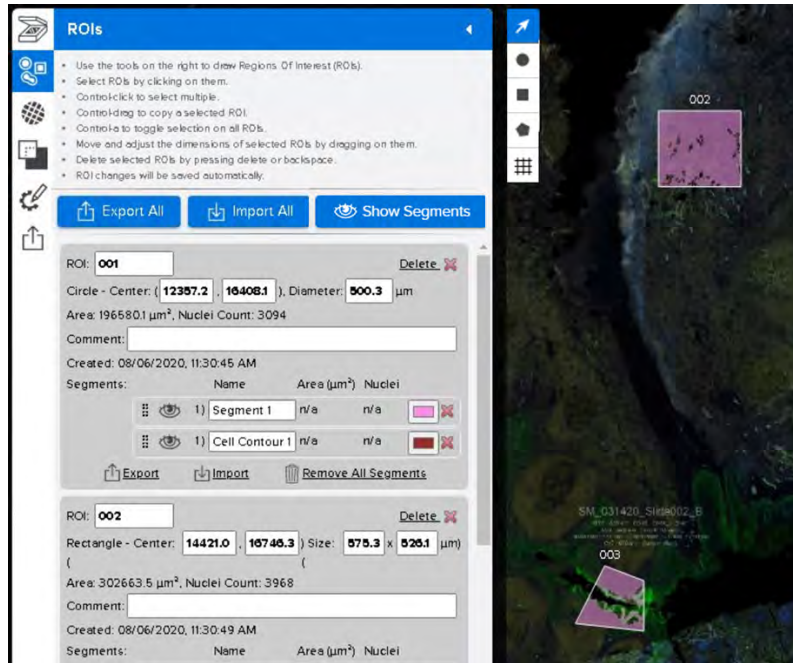

Figure 31: Scan Workspace ROIs List with segments
6. Open the **ROIs List** (see Figure 31) to: